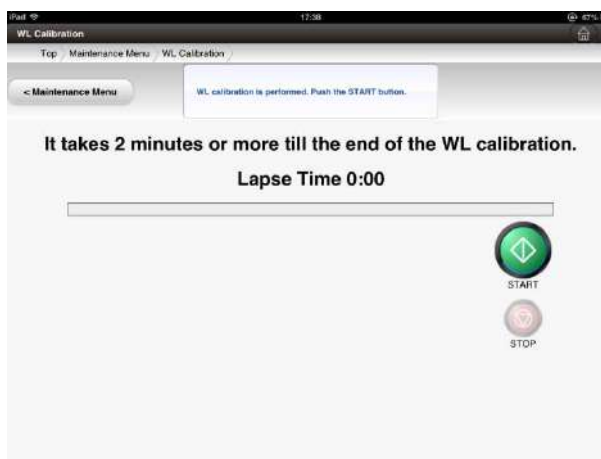

Fig. 6-45 Wavelength Calibration Execution Screen
- (2) Select the  Wavelength Calibration on the Maintenance screen. The Wavelength Calibration Execution screen (Fig. 6-45) is displayed.